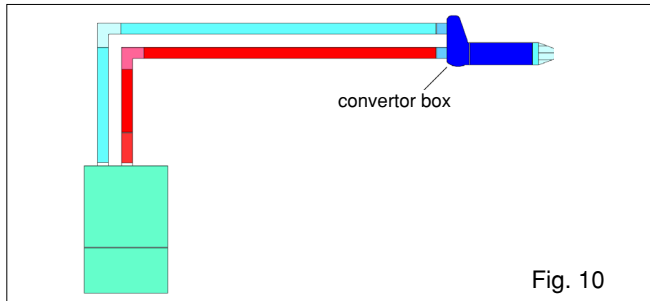

Fig. 10
- Insert the exhaust connection manifold (B) onto the appliance flue outlet and secure to the flue spigot using the screws provided.
- Remove the blanking plates (located to the left of the appliance flue outlet) and – using the same screws – install the air baffle (A).
**4.5.3.2 HORIZONTAL TERMINATION (fig. 10)**